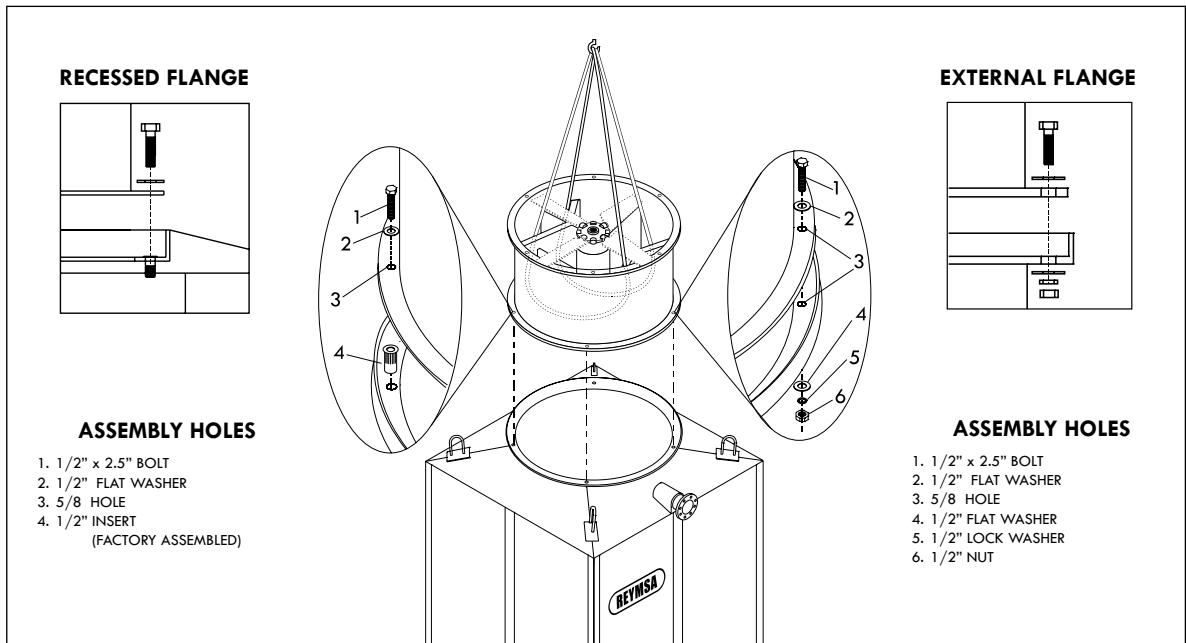
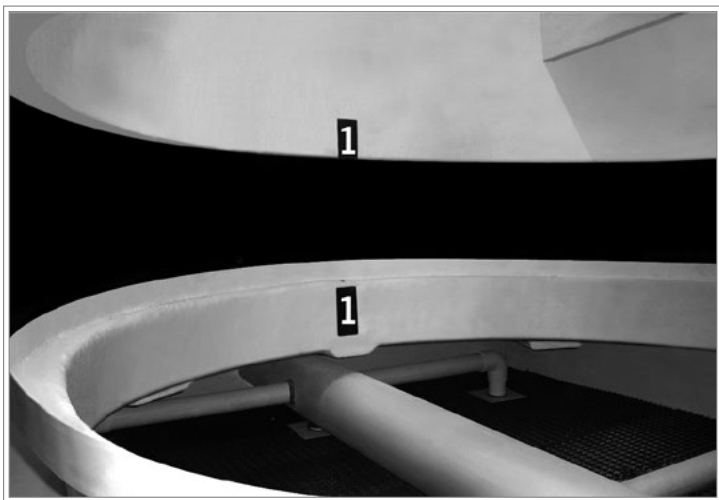

Figure A-8: Fan duct assembly for a single tower
Figure A-9: Fan duct alignment for a single tower
- K. Then cradle/straddle the fan support with the straps (as shown in figure A-8) so you can lift the fan duct with a crane and assemble it.
- L. Now place the fan duct on the receiving flange of the upper section (see Figure A-8); make sure the bolt holes and the marks inside the fan duct and the receiving flange are aligned (see Figure A-9). Secure it with the stainless steel nut and bolt sets supplied by REYMSA. There are two different types of receiving flanges, each one has its own assembly pieces (see Table A-2 to verify the type of receiving flange of your tower).